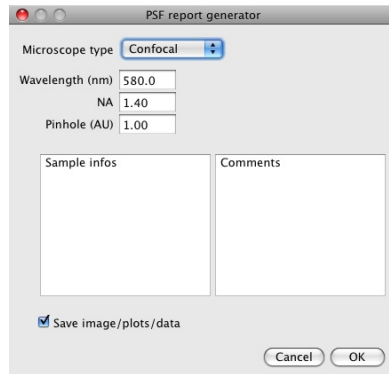

Figure 2.2: Generate PSF report: the interface.
5. The plugin's interface should appear (see fig. 2.2);